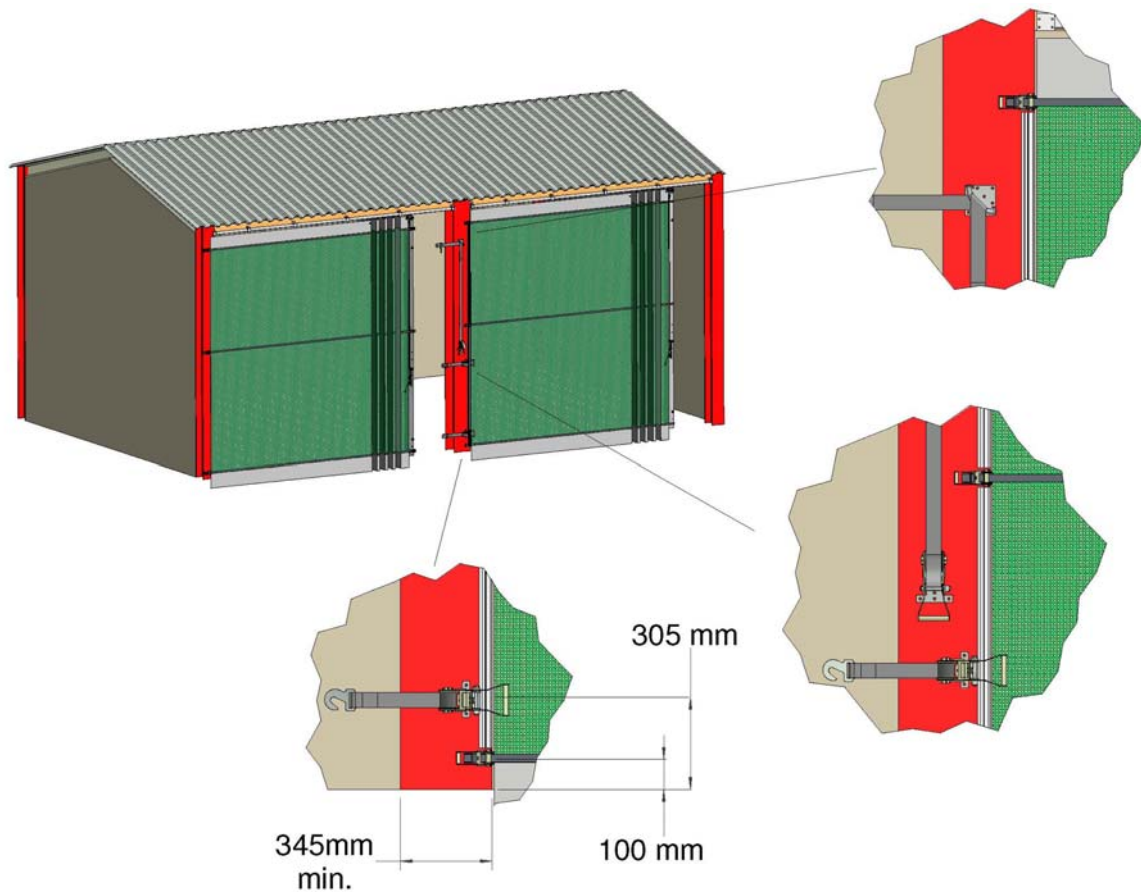

Figure 9, Double Trackscreen – Consecutive Fix
7.3.1 Both screens open in the same direction from Left to Right or vice versa (Figure 9).